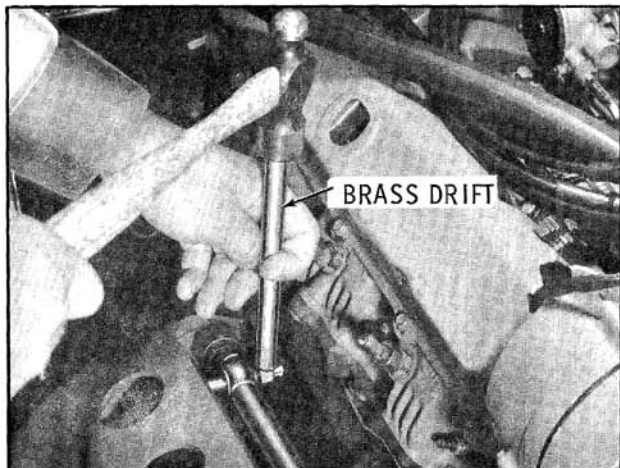

Fig. 9-13 Loosening Upper Control Arm Bolts
- a. Tap bolt down as shown in Fig. 9-13.